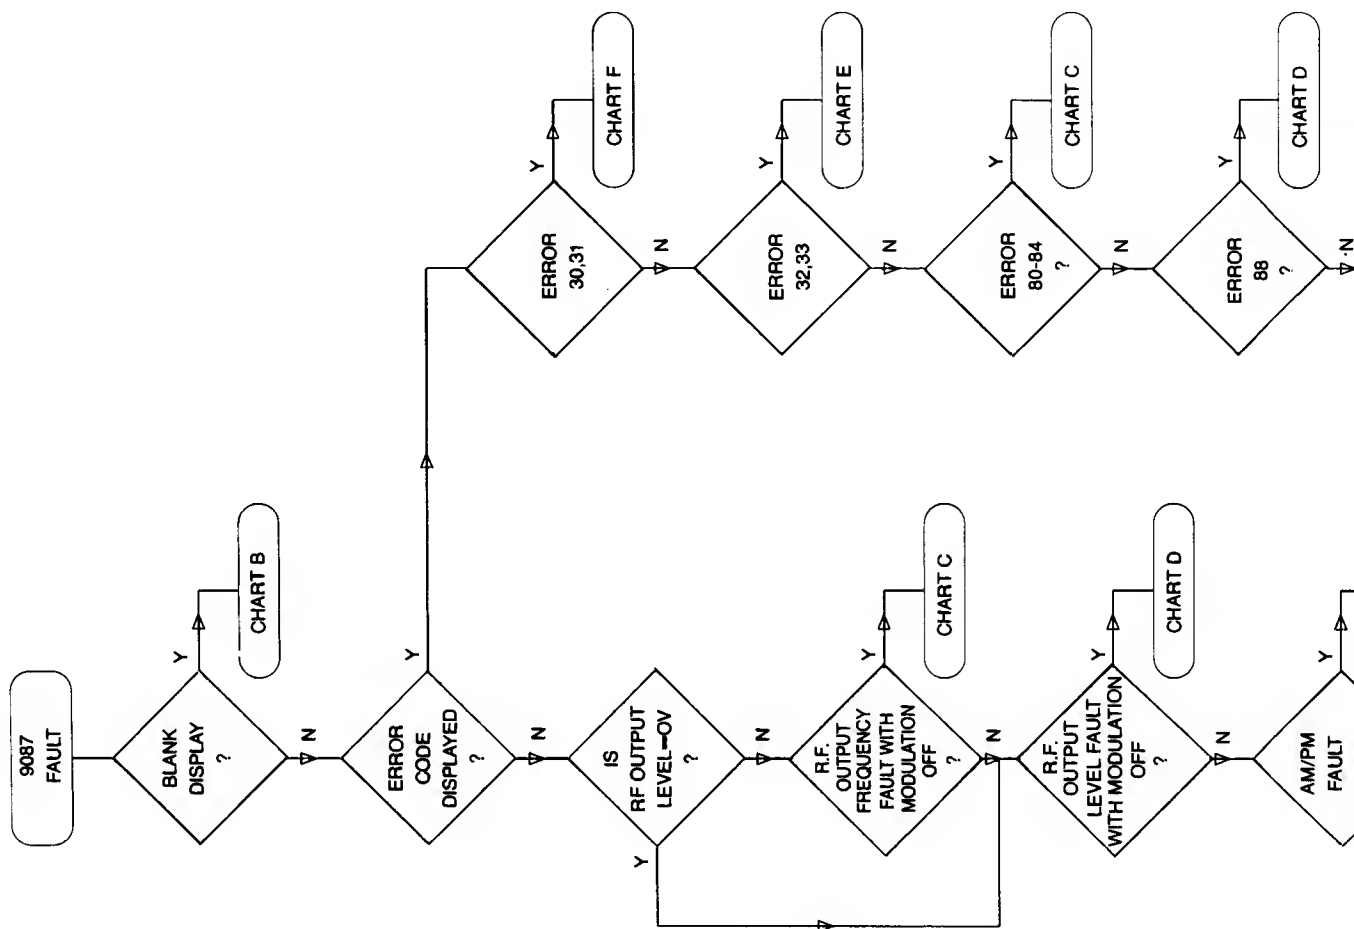

Fig. 7.7 Fault Finding P
7.6.1 A guide to fault location is given in the flow charts of Fig. 7.7 to Fig. 7.12. The charts provide a logical procedure for locating a fault to module level. The module block should be removed from the 9087, and connected to the chassis using the connectors provided in the Service Support Kit, Racal-Dana part number 11-1579.